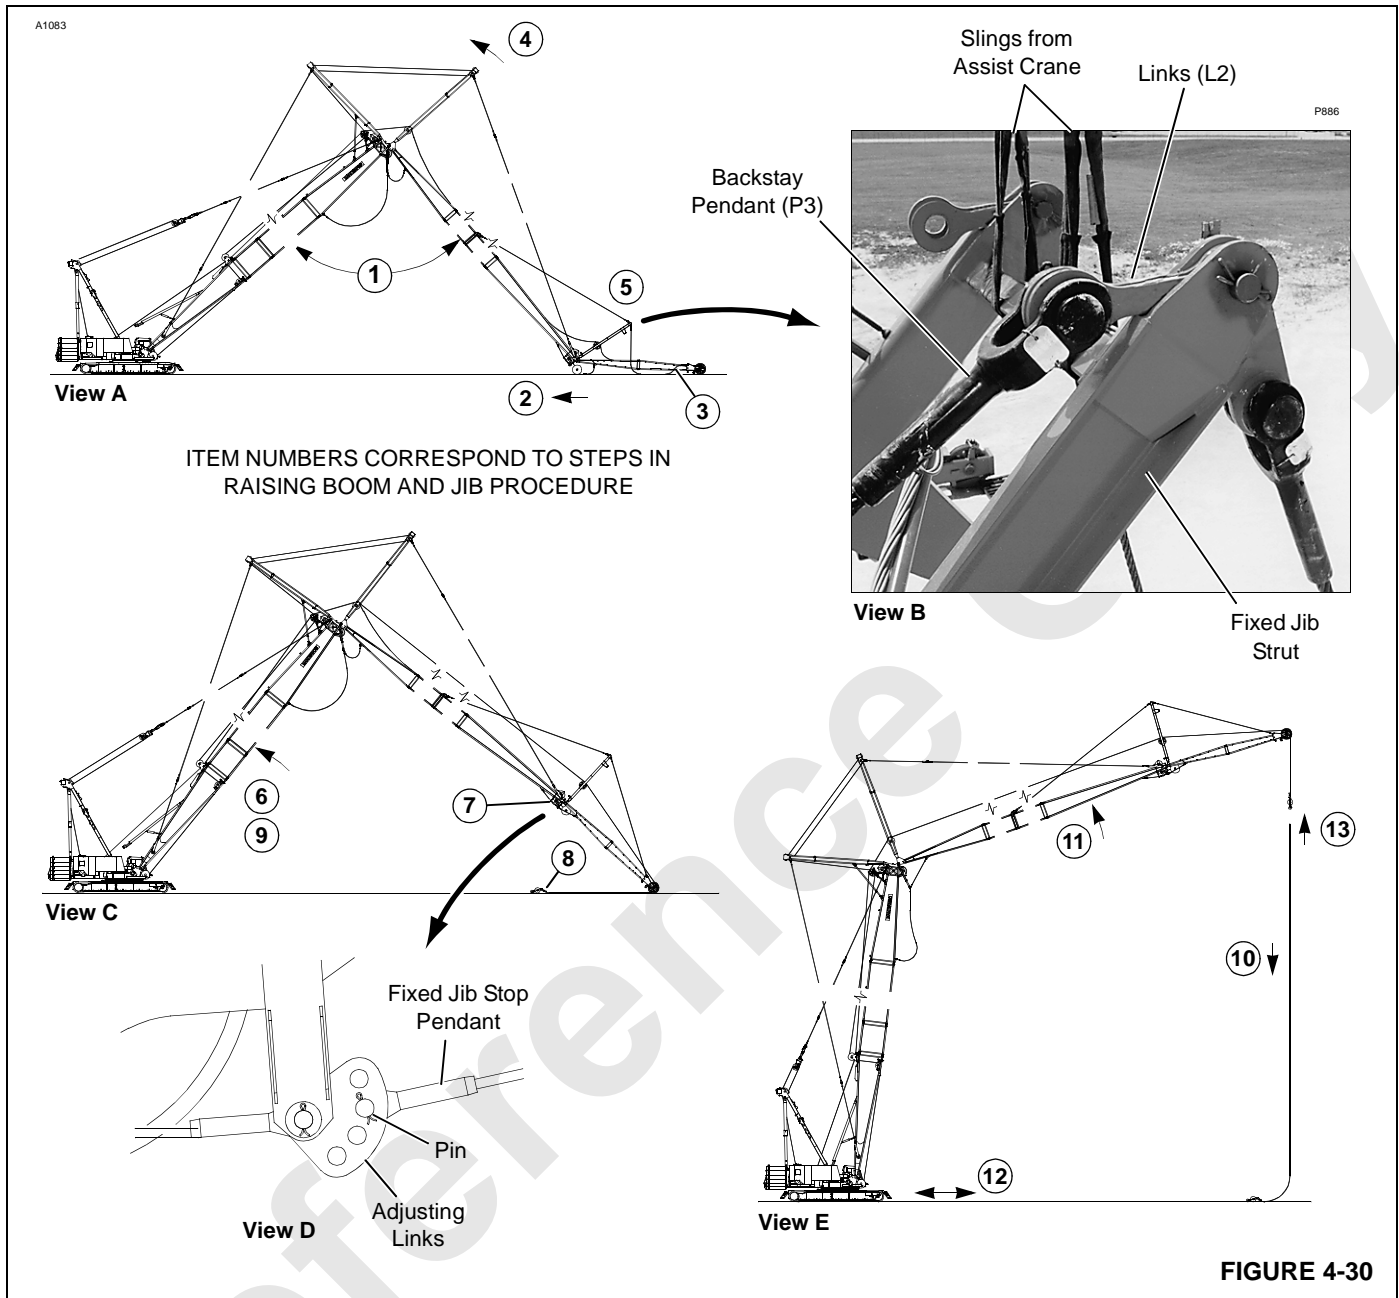

FIGURE 4-30
2. Boom and luffing jib fully assembled and raised to jack-knife angle called for in Luffing Jib Raising Procedure Chart at the end of this section with luffing jib rollers resting on ground (Figure 4-30, View A).
See Figure 4-30 for following procedure. Item numbers in Figure 4-30 correspond to numbered steps in following procedure.
6. Disconnect fixed jib stop pendants from adjusting links (Figure 4-30, View D). **A personnel hoist is required for this procedure.**
8. Disconnect fixed jib backstay pendants (Figure 4-30, View B):